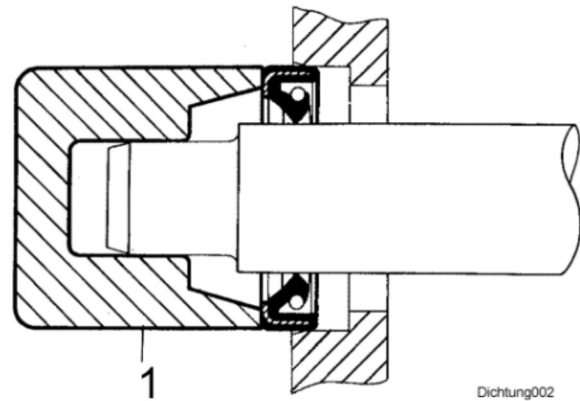

Fig. 3
- Lubricate the outer rim 1 (Fig. 3) of the seal and press it flat on the housing seat.
If possible, use a "bell" 1 (Fig. 3), to make sure that the seal will not skew. In some cases it may be advisable to assemble the seal into the housing first, before sliding it over the shaft. Under no circumstances should the full weight of the shaft rest on the seal.